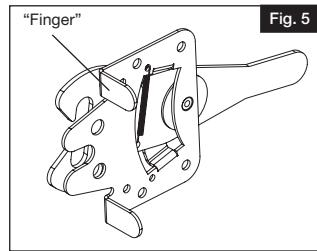

Fig. 5
- a. Place the latch on a flat surface, with the “finger” brackets facing the right, as shown (Fig. 5).